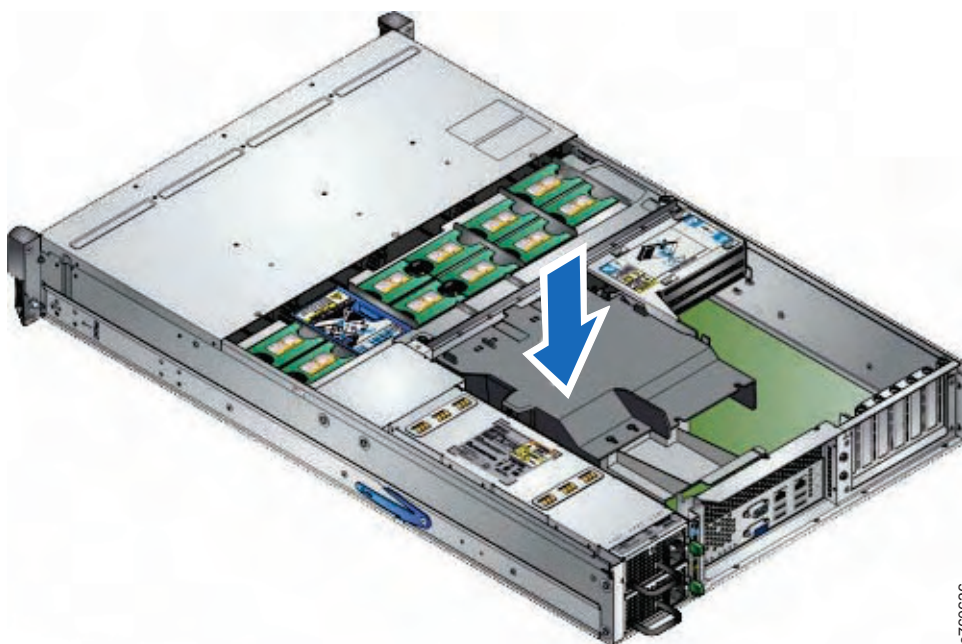

Figure 64. Replace airflow baffle
- d. Replace the plastic airflow baffle. See Figure 64.